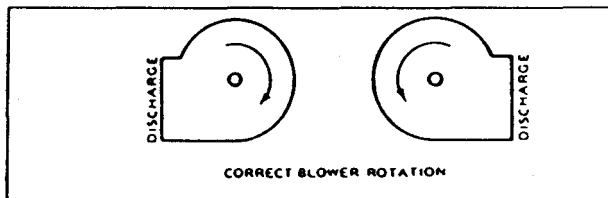

FIG. 12 - BLOWER ROTATION
- Use wire nuts to make connections in the wiring compartment. See Figure 12.